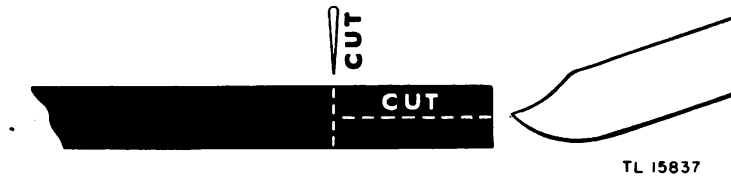

Figure 12. Removing vinyl jacket from coaxial cable.
- c. Remove $1\frac{1}{8}$ inches of the outer vinyl jacket from the cable (fig. 12). Do not cut too deeply or the braid will be damaged.